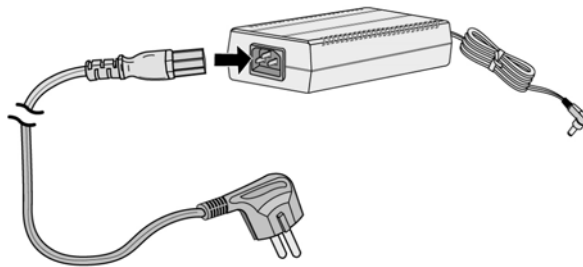

Figure 3.5-3 Power Adaptor
An AC/DC adaptor is packaged with the LDK-RSG. The adaptor is supplied with a two (2) meter (six (6) foot) AC cord terminated with the nationally relevant AC blade type. The adaptor supports AC input power systems with rated voltage range of 100-240 VAC @ 50/60 Hz. The adaptor provides 48 VDC, 0.8 amps. The DC output connector is cabled to the adaptor with a two (2) meter (six (6) foot) cable. Figure 3.5-3 shows the AC/DC Adaptor for the LDK-RSG.